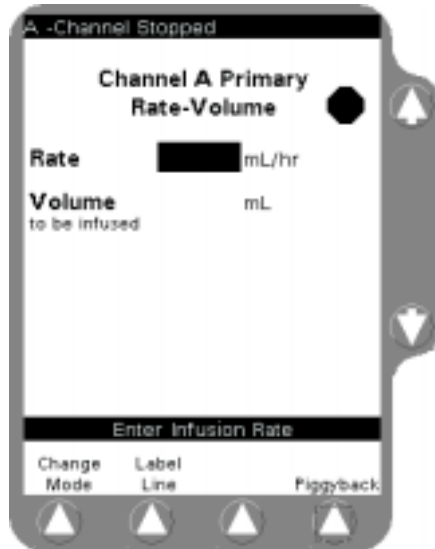

Figure 3-14 Rate-Volume Programming Screen
2. Program the desired flow rate (in mL/hr) using the keypad (Figure 3-14).